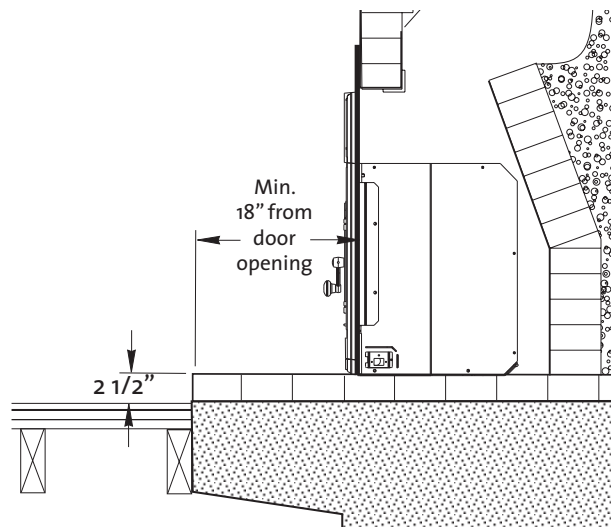

Figure 5. Canada only:
- b) it is raised a minimum of 2 1/2" and constructed on noncombustible materials in a code-approved masonry fireplace. See fig. 5.